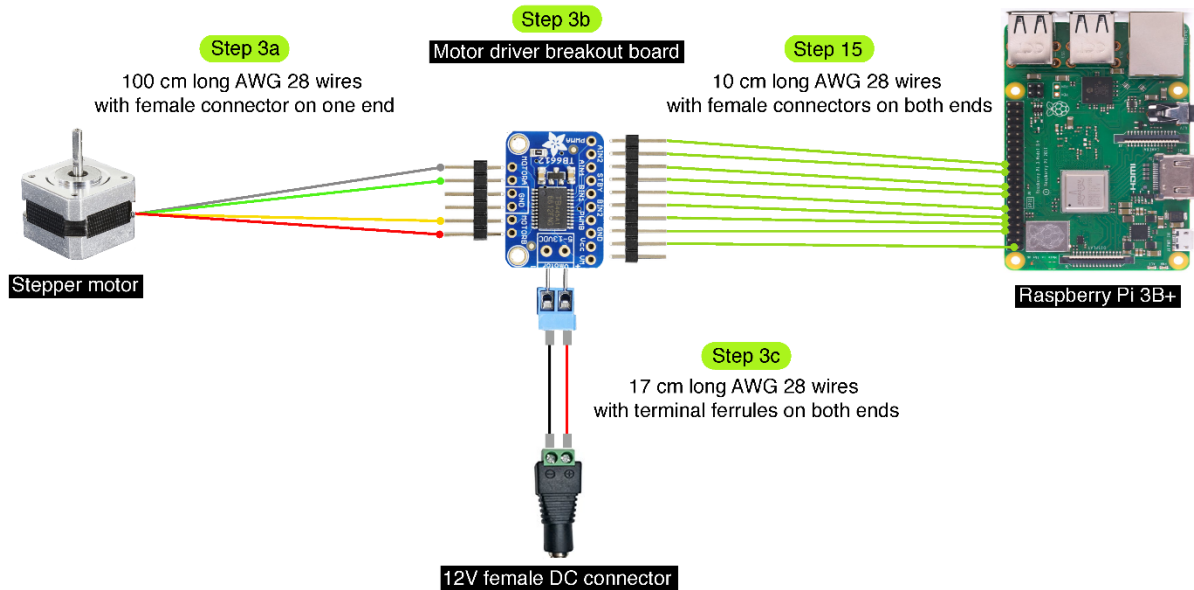

Figure 2. Wiring the stepper motor.
- When extending the wires, please use jumper cables with colors corresponding to the wires already attached to the motor: grey, green, yellow, red (**Fig. 2**).